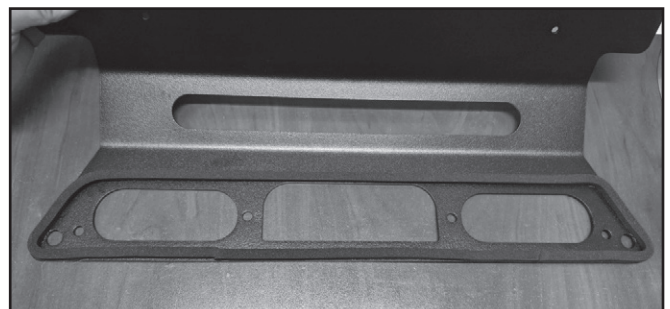

Figure 3: Gasket installation.
- 5** Install the gasket onto the side of the bracket that will be facing into the truck. This can be seen in Figure 3. (Holding the light up to the bracket will give a good indication of where the gasket should be applied.)